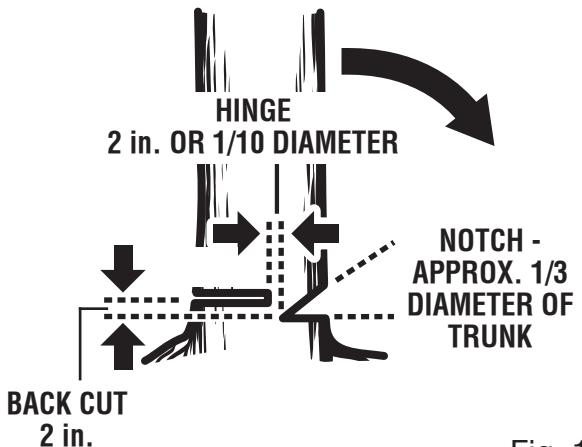

Fig. 13
- **Notched Undercut.** Cut a notch about  $\frac{1}{3}$  the diameter of the tree, perpendicular to the direction of fall. Make the cuts of the notch so they intersect at a right angle to the line of fall. This notch should be cleaned out to leave a straight line. To keep the weight of the wood off the saw, always make the lower cut of the notch before the upper cut. *See figure 13.*
- **Felling Backcut.** The backcut is always made level and horizontal, and at a minimum of 2 in. above the horizontal cut of the notch. *See figures 13 - 14.*
- Never cut through to the notch. Always leave a band of wood between the notch and backcut (approximately 2 in. or  $\frac{1}{10}$  the diameter of the tree). This is called "hinge" or "hingewood." It controls the fall of the tree and prevents slipping or twisting or shoot-back of the tree off the stump. *See figures 13 - 14.*